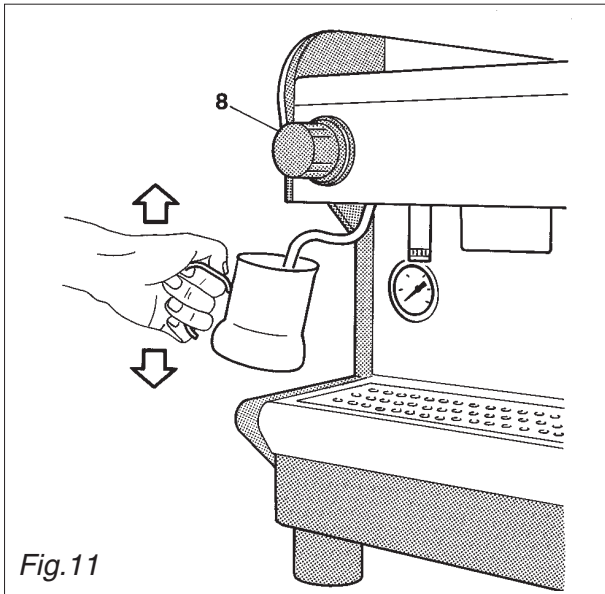

Fig.11
8.2. Preparing cappuccino Fig.11 (excluding DE/HTS)